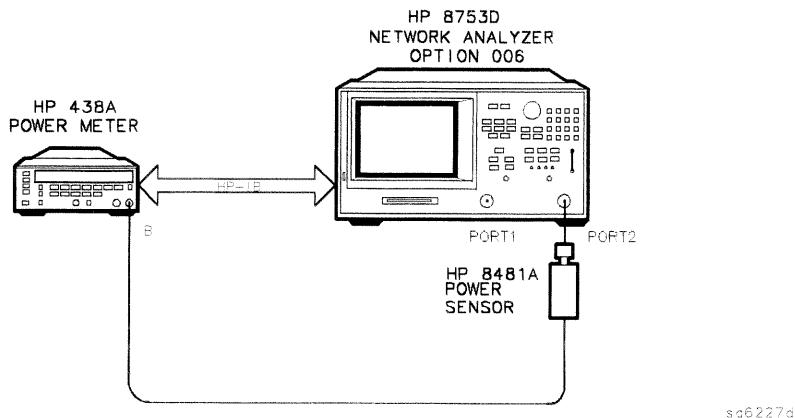

Figure 3-9. Connections for Sampler Correction at Port 2 for 6 GHz
22. **For Option 006 Instruments Only:** When the analyzer displays **CONNECT 6 GHz SENSOR TO PORT 2**, make the connections as shown in Figure 3-9. Then press **CONTINUE**. This part of the test will take about 20 seconds.